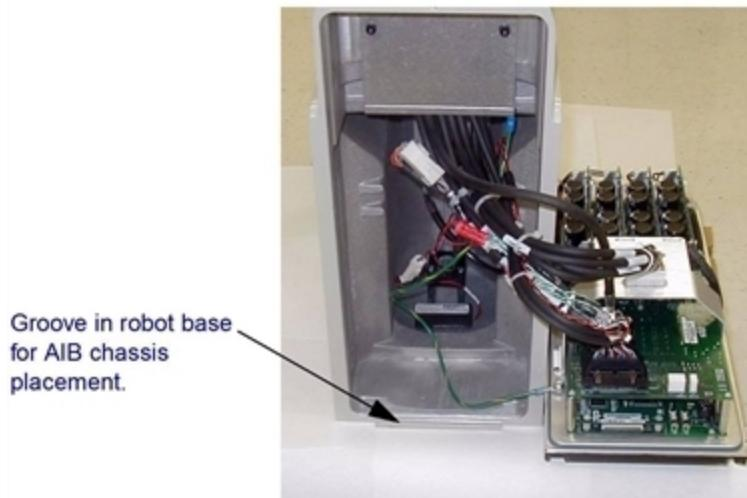

Figure 5-7. Installing AIB Chassis in Robot Base
6. Carefully insert the chassis into the robot base in the groove at the bottom of the base—see Figure 5-7. Tilt the chassis up and into place against the robot, making sure that none of the cables get trapped or pinched and that the chassis O-ring is not damaged during installation.